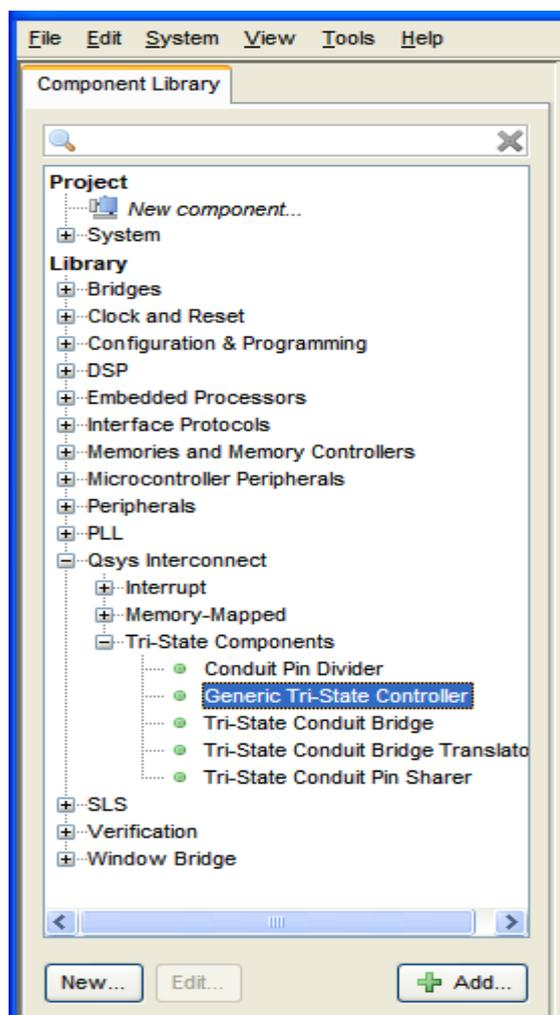

Figure 3-1 Add Generic Tri-State Controller
1. Choose **Library > Qsys interconnect > Tri-State Components > Generic Tri-State Controller** to open the Generic Tri-State Controller wizard. See Figure 3-1.